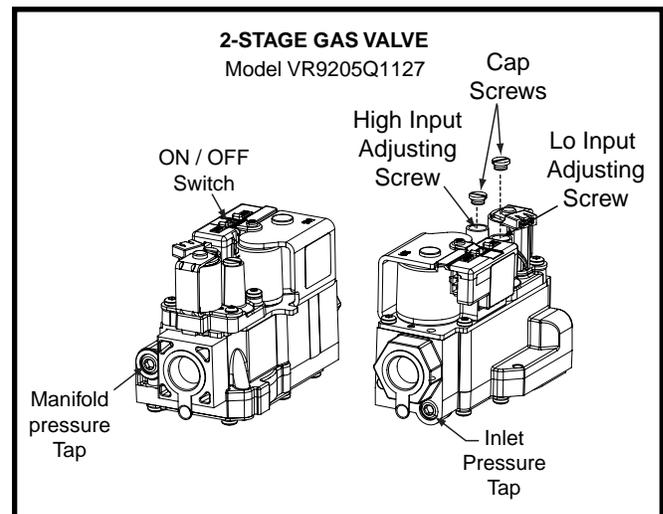

Figure 6. Regulator Capscrew & Tap Locations
4. Place the gas valve ON/OFF switch to the ON position. See Figure 6 (page 17).
2. Using a 3/16" Allen wrench, remove the plug from the inlet pressure tap (INLET side of gas valve). See Figure 6 (page 17).
3. Using a 3/16" Allen wrench, remove the manifold pressure tap plug located on the outlet side of the gas valve (Figure 6).
1. Remove the cap screw from the top of the gas valve regulator (Figure 6).